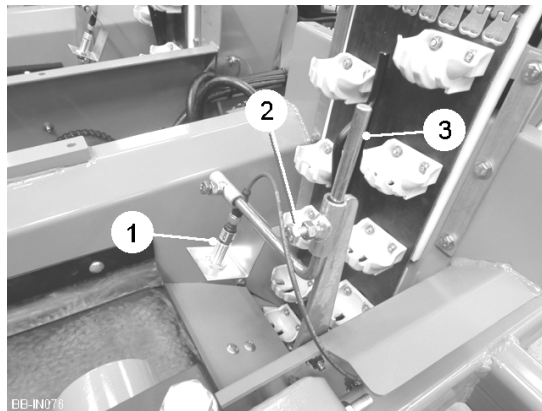

Fig 14
The feed belt motors are actuated by the sensors (item 1, fig 14) situated between the belts and the feeding pockets. When the quantity of potatoes in one of the feeding pockets is so small that the distance between the sensor and the potatoes is more than 8cm (or the feeding pocket is empty), the sensor gives the relay an impulse. This impulse closes the circuit causing the relevant motor to engage and drive the feed belt to transport the potatoes to the feeding pocket. When the quantity of potatoes in the feeding pocket increases such that the distance between the potatoes and the sensor is approximately 8cm, the sensor gives the relay a new impulse which then causes the motor to disengage and so stop the drive to the feed belt. The feed belt will remain at standstill until the quantity of potatoes in the feeding pocket is small enough that the process is repeated. This way the potato layer in the feeding pocket is always kept thin and the feeding cups do not damage the potatoes.
Depending on the size of potatoes being planted, it may be necessary to alter the height of the sensor (item 1, fig 14) in relation to the feeding pocket. The sensor should be positioned higher for larger potatoes and lower for smaller potatoes. To adjust the height of the sensor, loosen the set screw (item 2, fig 14) and slide the support arm (item 3, fig 14) to the required position and re-tighten. Minor adjustments to the sensing distance can be made by turning the screw located on the side of the sensor. The sensing distance is increased by turning the screw clockwise and decreased by turning it anti-clockwise.